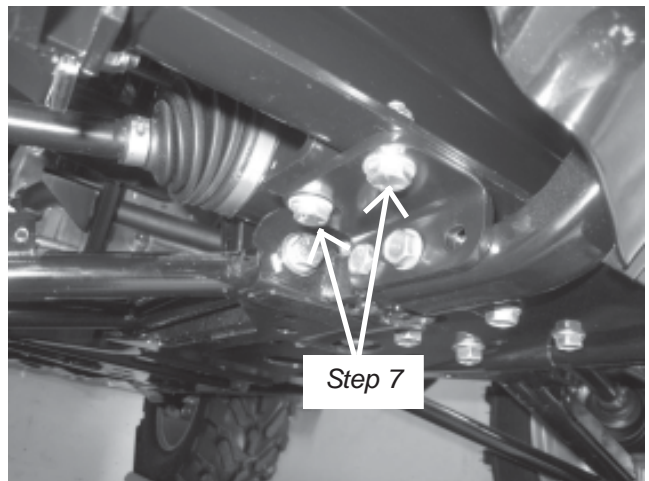

Figure 6
7. Secure Part A to Part B (2X). For each side, place (2)  $5/16"$  x 1" bolts with  $5/16$  washers through the slotted holes of Part B and through the bottom holes of Part A. Secure with a  $5/16"$  washer and a  $5/16"$  Nylock Nut, see Figure 6.